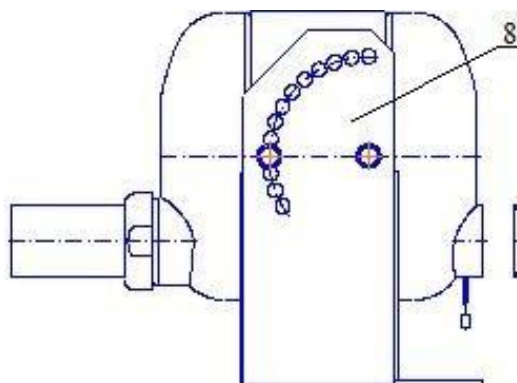
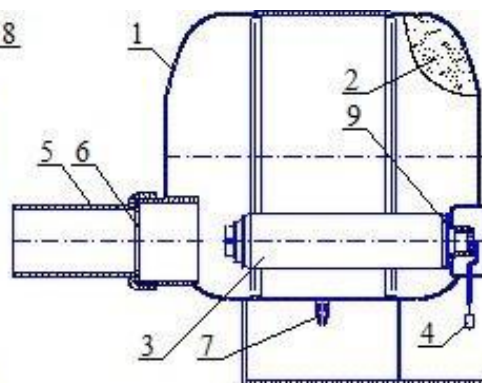
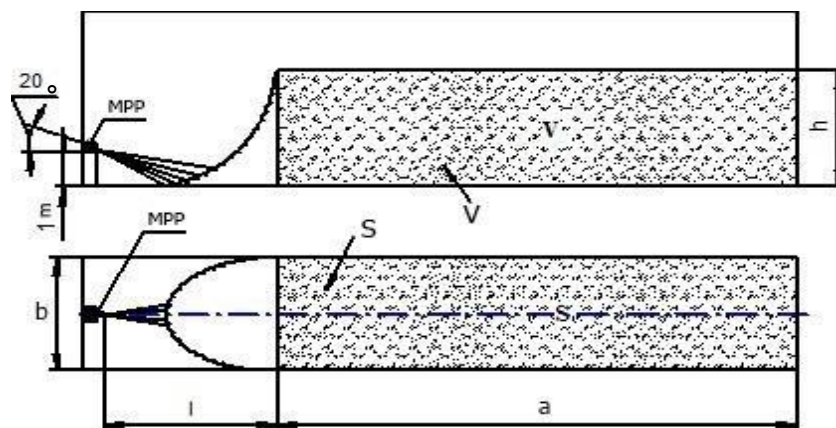

Figure 1
Figure 2
Figure 4. In room or duct at a height of 1m with an axis angle of 20 degrees and the atomizer insert pointing downwards.
4.1 MPH (Figure 1. and Figure 2.) consists of the pressure body 1 , which includes: extinguishing powder (HP) 2 and cold gas generator (GSP) 3 with electric fuse 4 . On the other side of the hood is the atomizer insert 5 , as well as the outlet, which closes with a membrane 6 . The module is equipped with a grounding terminal 7 . The upper part of the MPH s equipped with a holder for the ceiling 8., or for the wall 9.
4.3 After receipt of an electrical impulse to the electrical output switch 4GSP 3 (Figure 1,2), the gas generator is activated and generates a cold gas that puts the interior of the container under pressure. As soon as the necessary pressure is present, the membrane opens 6 and the extinguishing powder comes out of the module through the atomizer 5.
6.2 Suspension 8 can be mounted under the ceiling (Figure 1) or suspension 9 (Figure 2) can be attached to the wall. Please mark the places for attaching the suspension as on the (picture 3) and on the wall acc. (Figure 4).
6.6 The configuration of the powder propagation and the representation of the erasing surfaces shown in the following figures 4, 5, 6, 7 and tables 2 and 3.